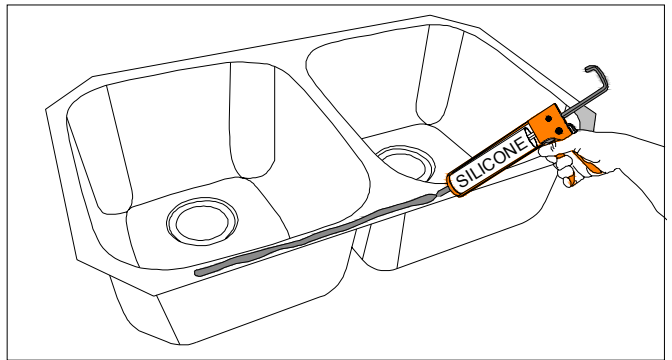

Figure 36B
- Apply a generous bead of 100% clear silicone to the top surface of the sink rim. (FIG. 36B)